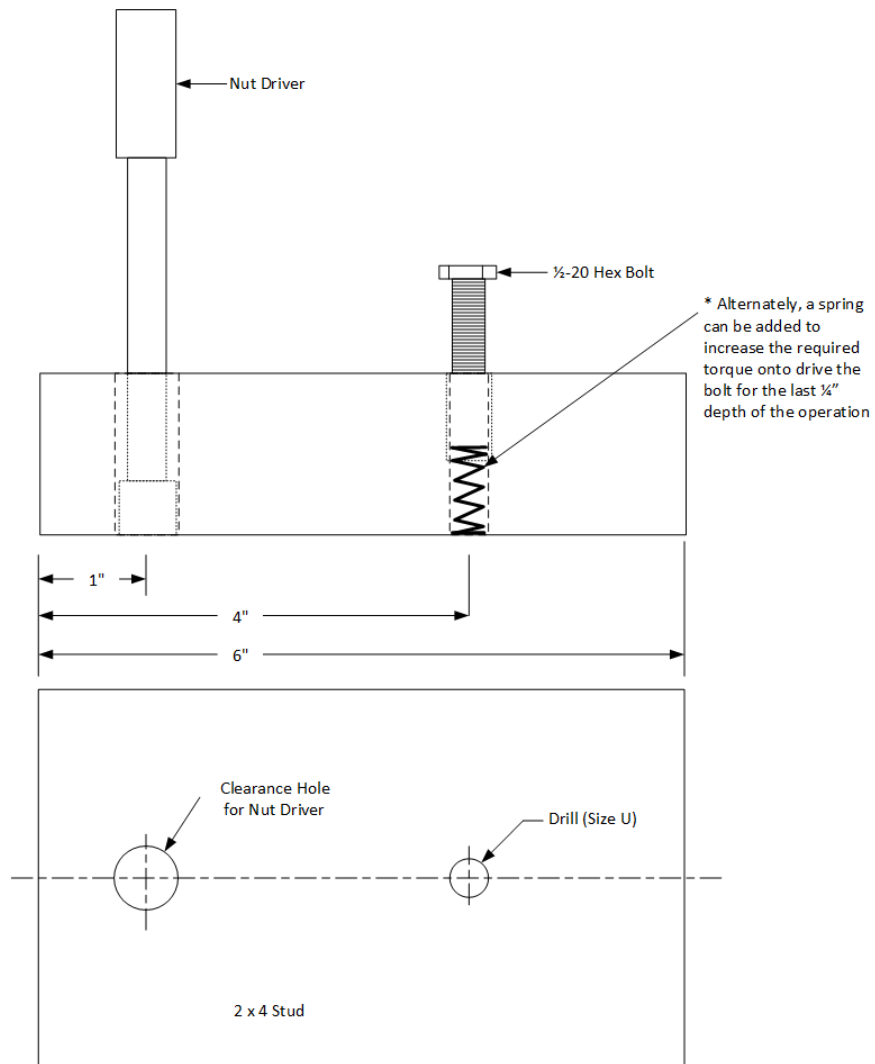

Fig. 4. Drive bolt setup
1. Drill holes per Figure 4 and install threaded insert (this process could be a step in future competition)
3. Locate nut driver in locating hole on wood stud per Figure 4